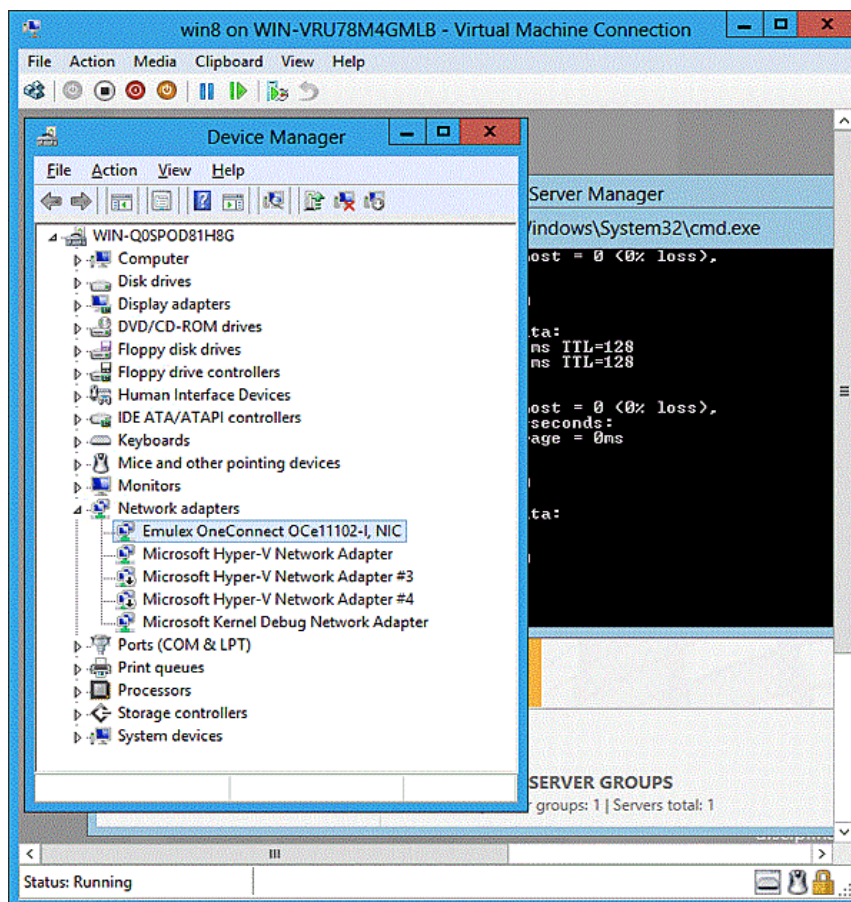

Figure 3-4 Device Manager for Windows Server 2012
2. Click **Device Manager**. The Device Manager opens (see Figure 3-4 on page 81).
1. Click **Device Manager**. The Device Driver opens (see Figure 3-4 on page 81).